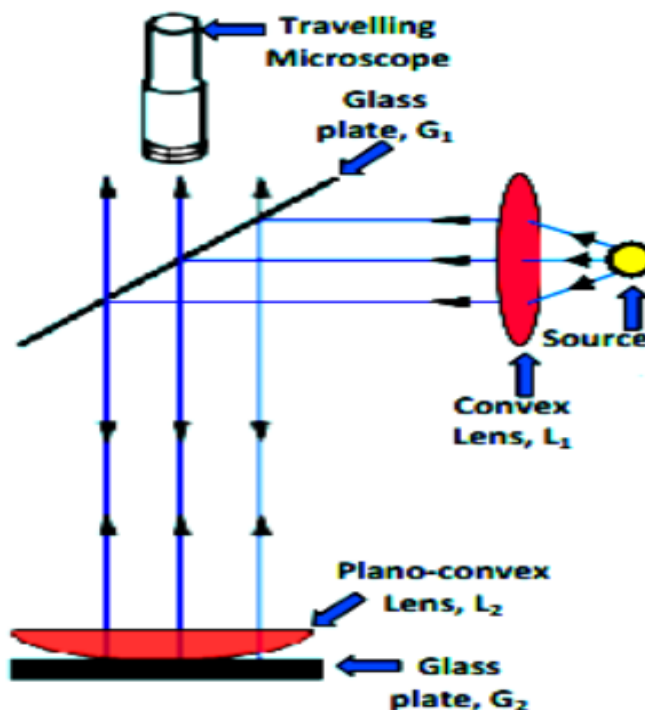

Fig. 1
1. If a point source is used only then we require a convex lens otherwise while using an extended source, convex lens L_1 is not required. Before starting the experiment the glass plates G_1 and G_2 and the plano-convex lens L_2 should be thoroughly cleaned. The centre of lens L_2 illuminated by adjusting the inclination of glass plate G_1 at 45° as shown in figure 1